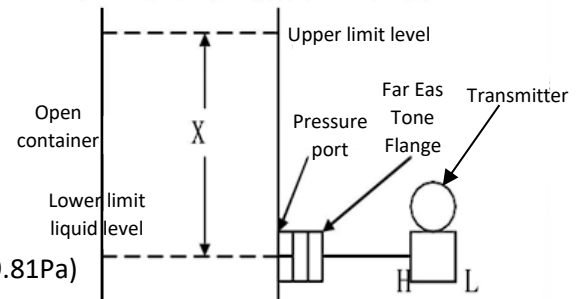

Figure 5-8 The transmitter is level with the pressure port
1. The transmitter is installed at the same level as the pressure port. When the lower limit liquid level is level with the pressure port (see Figure 5-8), the measuring range value of the transmitter is determined as follows: